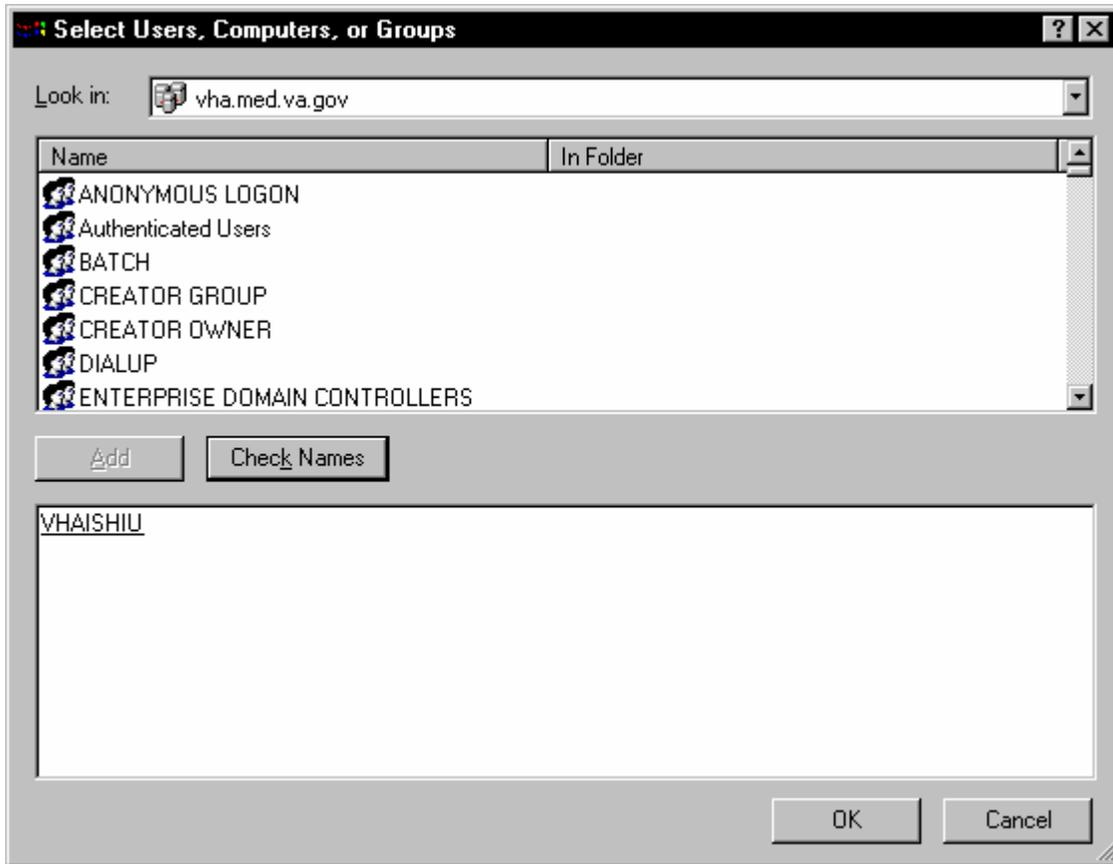

Fig. 11-4
7. Enter the name of the VistA Imaging (VHAISHIU) User (IU) into the bottom window and click **Check Names**. A line is displayed under the name if it is valid. Click **OK** to add the user (Fig. 11-4). The Select Users, Computers, or Groups window closes and VHAISHIU is displayed in the Permissions dialog box.